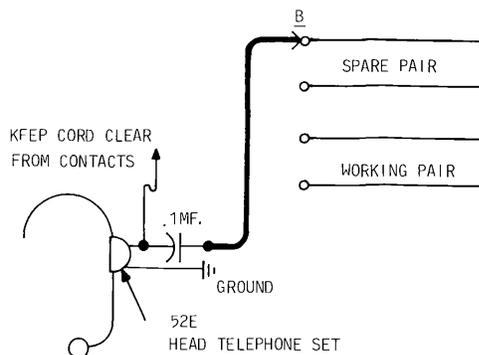

Fig. 20—Talk Pair Identified at Receiving End
- At the receiving end (B), the talk pair is identified with the talk set connected as shown in Fig. 20. (The talking set should be equipped with a 0.1 μ F capacitor to avoid interference on working lines.)